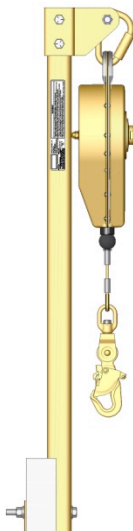
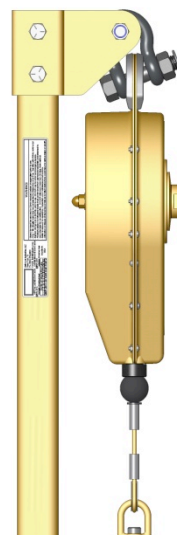

Fig. 6
Fig. 7
8. Any SRL with a maximum arrest force of 900-lb. or less may be connected to the Vertical Ladder Stanchion using either a steel carabiner (part number 3062 or equivalent) or a 5/8-in. bow shackle (part number 6066; a 1/2-in. bow shackle is too small to connect an SRL to the Stanchion). To connect the SRL using a carabiner, pass the carabiner through the handle (or connection point) of the SRL and lift the SRL upward to the stanchion. While holding the carabiner gate open, slide the carabiner between the sideplates and onto the spacer. Allow the gate to close and lock (see Fig 6). NOTE: If a carabiner is used, the gate MUST close and lock once positioned onto the spacer. If the gate does not close and lock, a different, larger, carabiner must be used instead. If a bow shackle is used as the connection method for the SRL, the spacer and spacer bolt must be first removed. Connect the 5/8-in. bow shackle to the handle or connection point of the SRL and secure into place using the nut and the lock ring. Place the Spacer into the bow and hold into place while lifting in place. Raise the bow shackle/spacer and insert between the tips of the sideplates (see Fig. 7). Align the holes of the sideplates with the hole of the spacer and insert the spacer bolt. Secure in place with the nut and tighten.